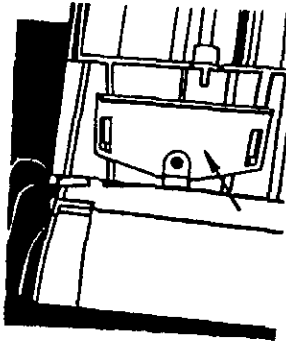

Fig. 5F
b. Lift bag housing out of bag housing bracket located on lower handle. (Fig. 5F)